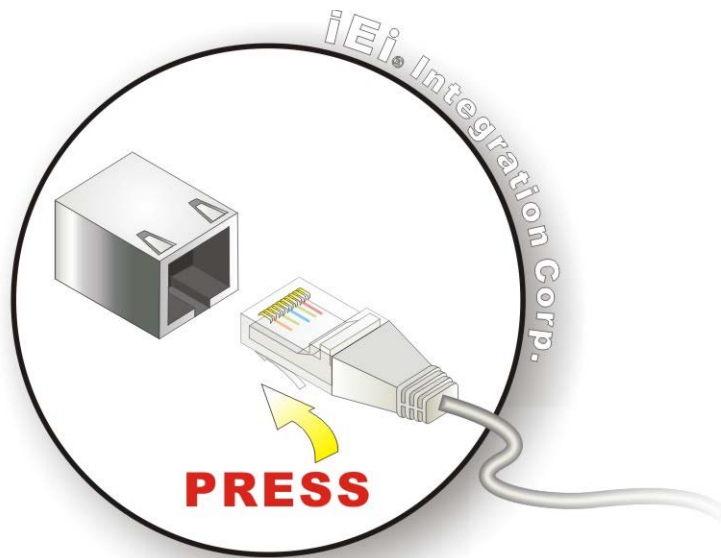

Figure 4-16: LAN Connection
Step 2: **Align the connectors.** Align the RJ-45 connector on the LAN cable with one of the RJ-45 connectors on the PCIE-Q670 Series. See **Figure 4-16**.